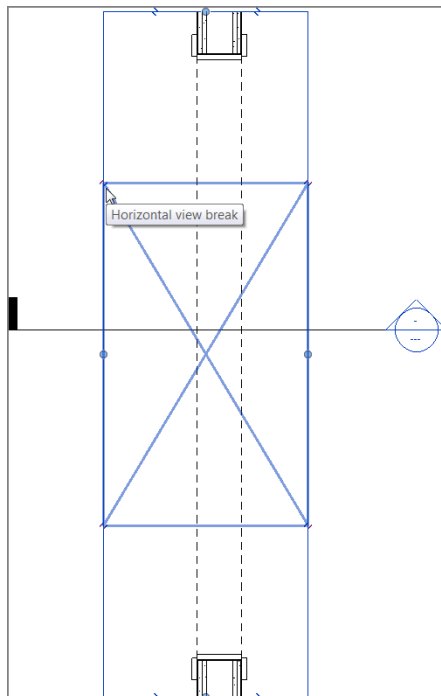

FIGURE 3.58: Splitting the section
4. With the crop region still selected, notice the break icons similar to the make-elbow icons in the level markers. Pick the break icon, as shown in Figure 3.58. Slice part of the section away, resulting in two separate cropped regions.